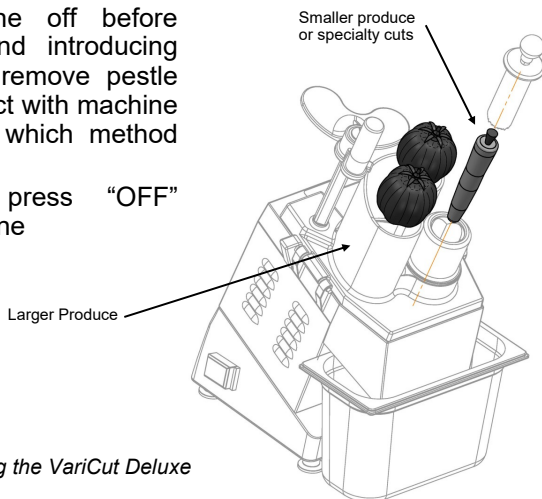

Fig 10 - Loading the VariCut Deluxe
- Lift pusher and load product into feed opening. (Fig 10). Lower pusher and turn machine "ON". Apply light pressure to pusher to assist moving produce through machine.
- Remove Rotating Pestle from rotating chute. (Fig 10). Place produce in chute. Reinsert Pestle and apply light pressure. Turn machine "ON" to process product.